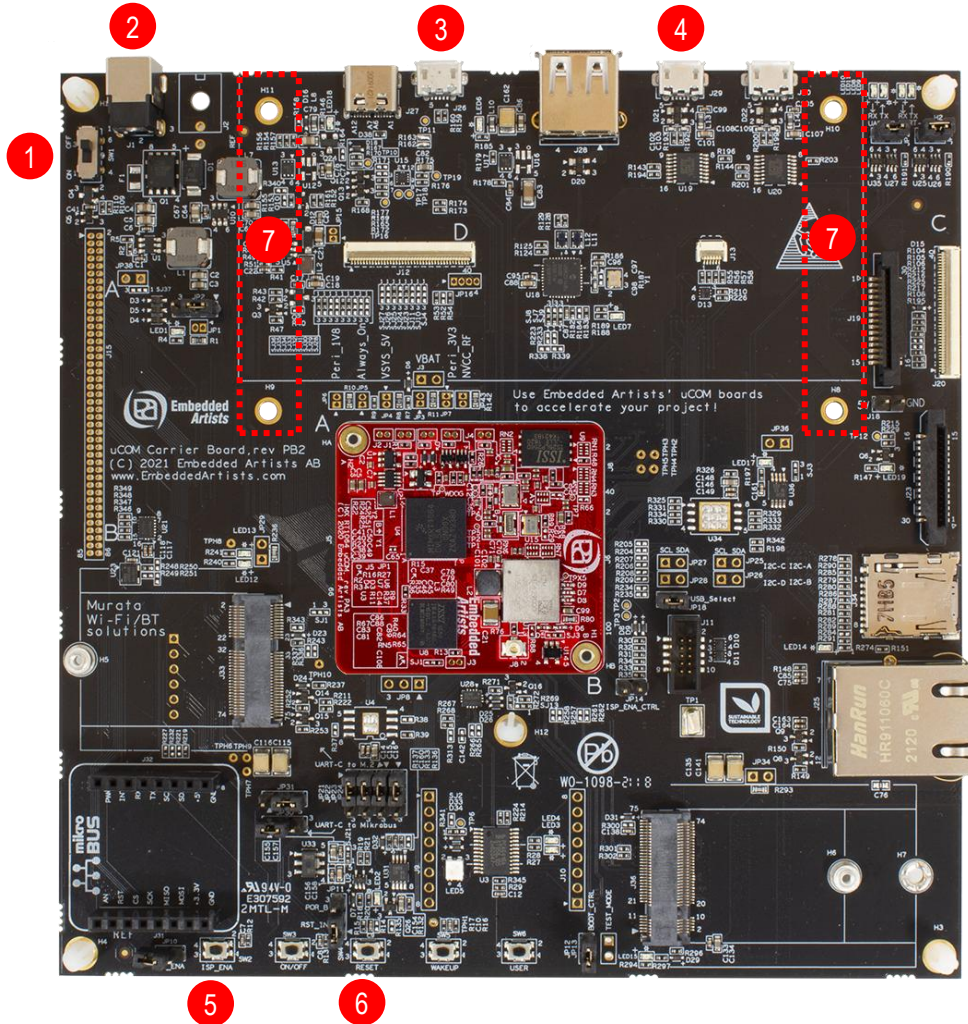

Figure 1 – iMX RT1064 Developer's Kit
- One *iMX RT1064 uCOM* board mounted on one *uCOM Carrier board*, see Figure 1 below.
Figure 1 below illustrates the top side of the *uCOM Carrier board*. Some key components, relevant to get started, have been marked in the picture.
Begin by connecting the micro-B USB connector to position 1) in Figure 1 above. Connect the other end of the USB cable to the PC.